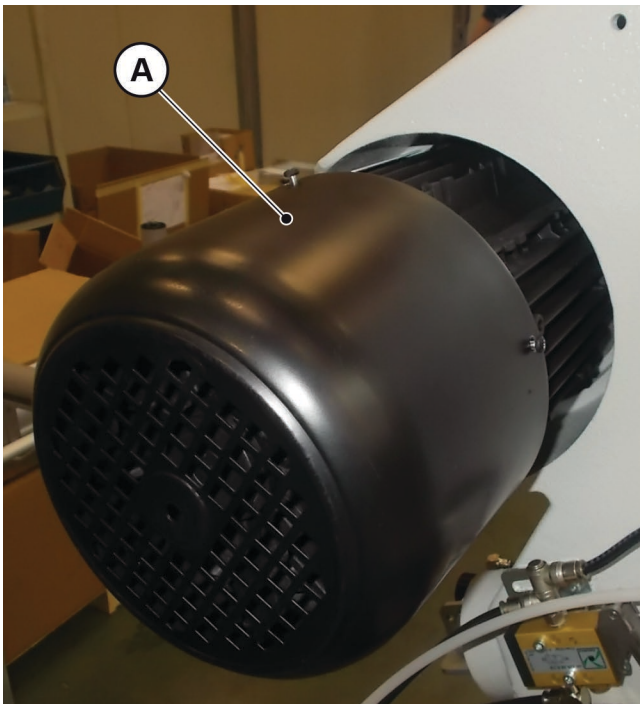

Fig. 09-04
- 1 Remove the motor cover “A” (**Fig. 09-04**) by unscrewing the relevant fixing screws.